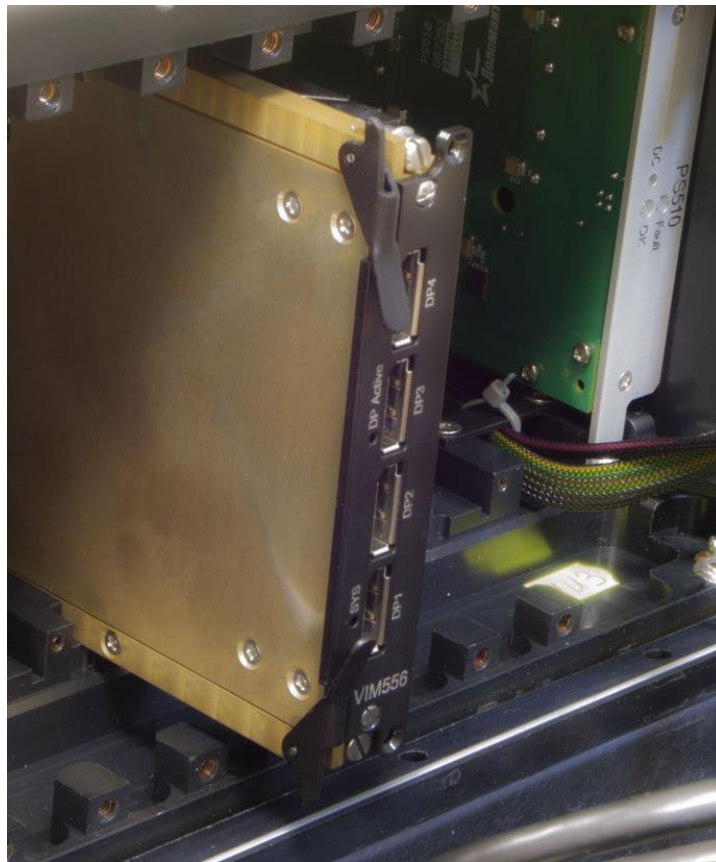

Fig. 3-2: Installation of VIM556RC
- Carefully insert the module into the required slot, moving it along the guide-rails until it touches the connector of the backplane (see Fig. 3-2).
- Push the module into the backplane connector by slightly pressing to the front panel. Make sure that the module is installed flush with the other modules of the system (see Fig. 3-2).